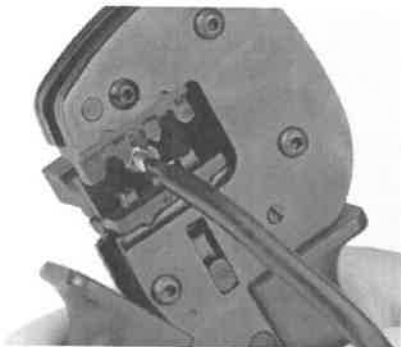

Figure 6
- ✧ 将电缆线的剥线端插入插针/插套的开口内直到电缆线的绝缘层接触到插针/插套开口处，最后完全压紧压接工具（如图 6、7）。
Insert the stripped wire into the male/female terminal until the cable insulation touches the opening of the male/female terminal. Press the crimping tool completely. (Fig. 6、7).